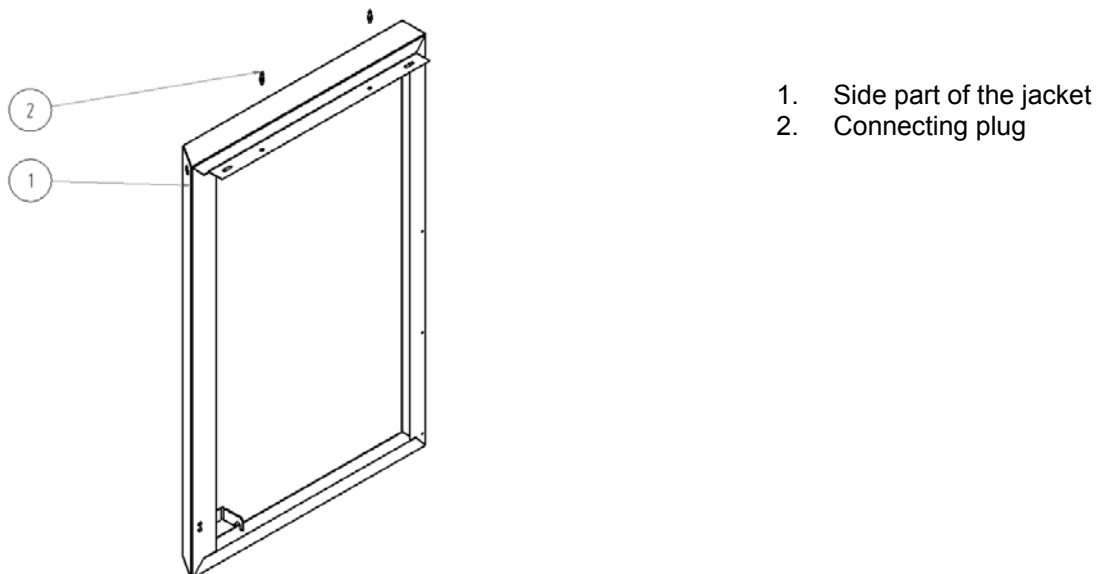

Fig. No. 12 Right side part of the jacket
4. Mount two connecting plugs (2) on the right side part of the jacket (1) and then insert the insulation. Put the jacket on the lower anchor bolts and connect upper part with consoles 1 and 2 by means of two screws M5 x12 plus two washers ,3 – see Fig. no. 12.